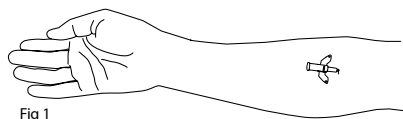

Fig 1
2. Insert the peripheral venous catheter delivered with 67 IV Microdialysis catheter in a peripheral vein according to normal hospital routines (Fig 1). Observe that the peripheral venous catheter (PVC) delivered with the 67 IV Microdialysis catheter must be used. Flush the PVC with a saline solution.